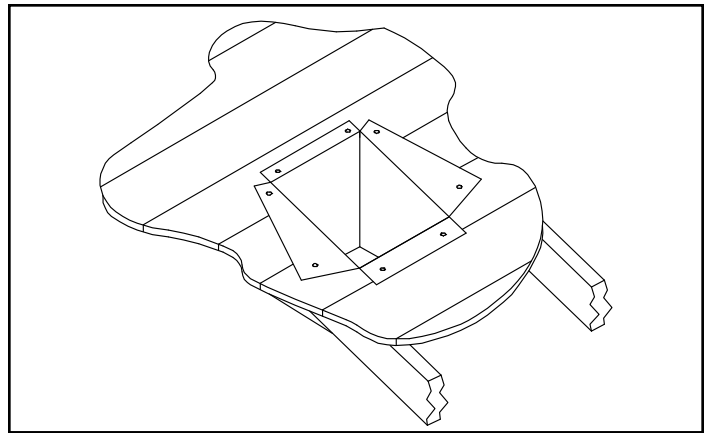

Figure 5.21
4. Using tin snips, cut the support box from the top corners down to the roofline, and fold the resulting flaps over the roof sheathing (Figure 5.21). Before nailing it to the roof, run a bead of non-hardening mastic around the top edges of the support box to make a seal between it and the roof.